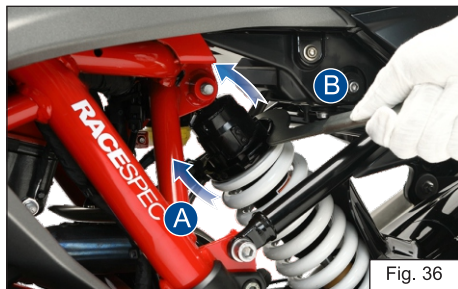

Fig. 36
- ◆ Locate the adjuster shock absorber rear and handle ring spanner of tool kit (ref. page 134) properly into the notches of pre-load adjuster (ref. Fig. 36).
- ◆ Carefully rotate the adjuster clockwise (A) to increase the pre-load (hard suspension).
- ◆ Else, rotate the adjuster in anti-clockwise (B) to decrease the pre-load (soft suspension).